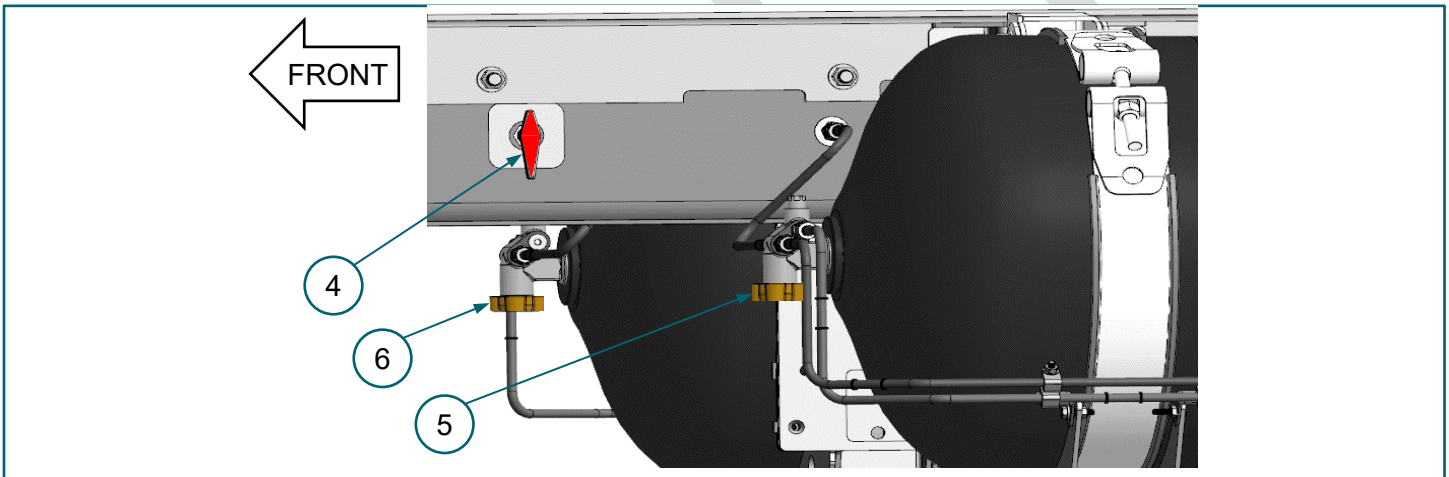

FIGURE 3-2. (4) 1/4-turn manual shutoff valve, (5) DS cylinder manual valve, (6) PS cylinder manual valve
1. Verify (5) driver side (DS) cylinder manual valve and (6) passenger side (PS) cylinder manual valve are closed. NOTE: Cylinder shields not shown. FIGURE 3-2
2. Verify (4) 1/4-turn manual shutoff valve is closed. FIGURE 3-2